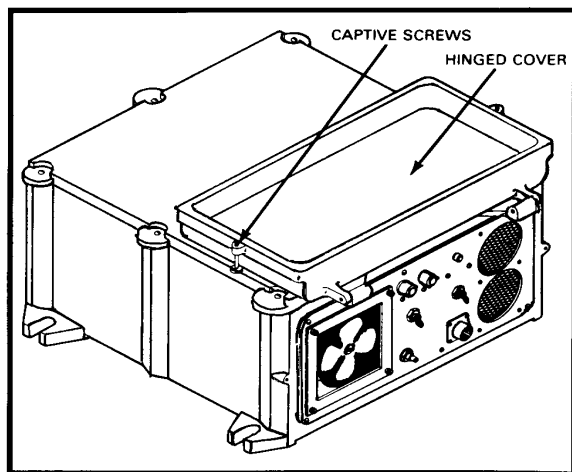

Figure 1. Power supply front cover
3. Perform external inspection (Figure 1).